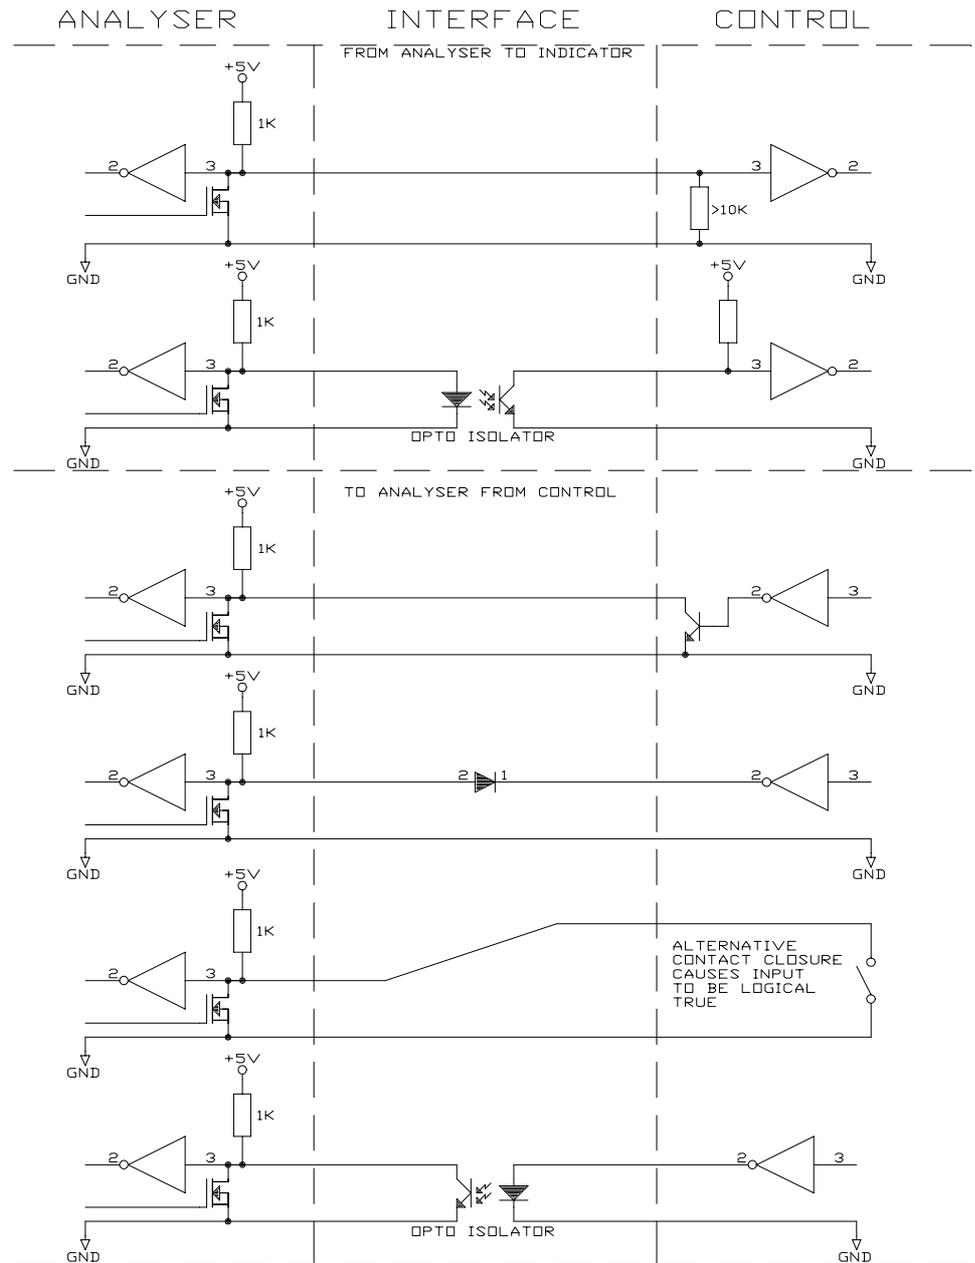

Figure 5 Typical Remote Logic Connections
- 3.7.3 Typical connections for switch, logic, and isolated logic are given in Figure 5 on page 19. The grounded switch method of control is useful where the analyser must be placed in a different area from the control and where only manual control is required. Computer or process controllers should use the direct or isolated method of operation. Isolated connections should be used if the analyser is in an electrically noisy environment, with the analyser some distance from the controlling logic, and where the controlling logic is connected to the local earth.